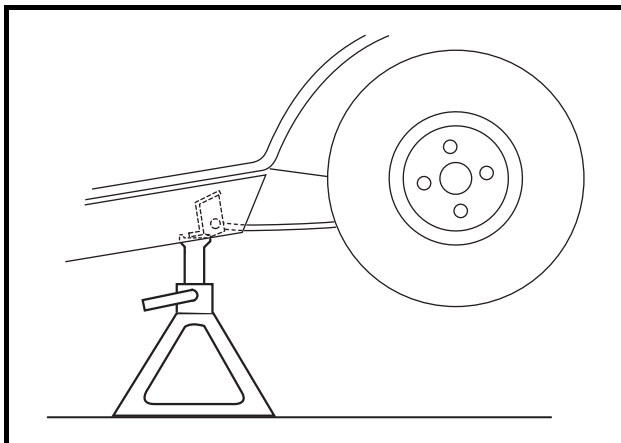

Figure 28-6 Vehicle Supported on Jack Stands
2. Place a floor jack under the transaxle and raise the rear of the vehicle. Position jack stands under the frame crossmember between the spring mount and the side stringer, just forward of each rear wheel. Lower the vehicle to let the jack stands support the vehicle (**Figure 28-6, Page 28-5**). See **WARNING “Lift only one end of the vehicle…”** in General Warning on page 1-1.